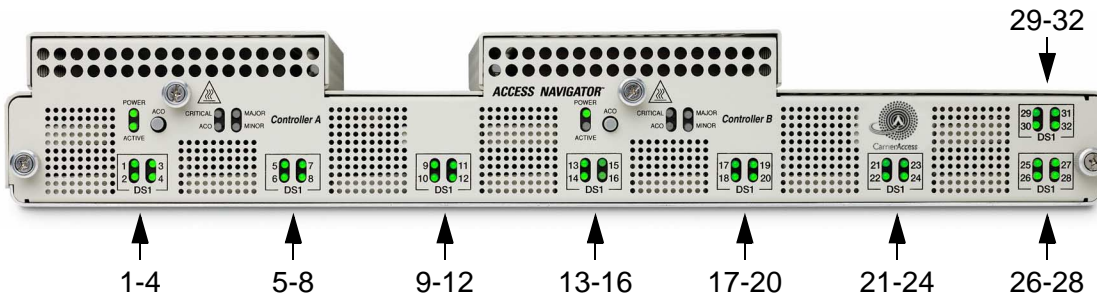

Figure 6-40. Location of DS1 Status Indicators
5. Verify the following front panel status indications (see Figure 6-40).